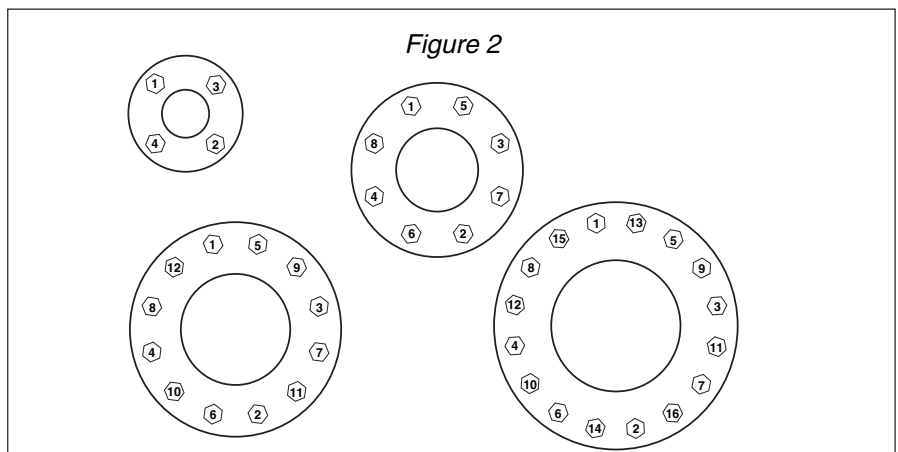

Figure 2
3. Using the sequence shown in Figure 2, tighten the flange bolts evenly to assure uniform gasket compression.